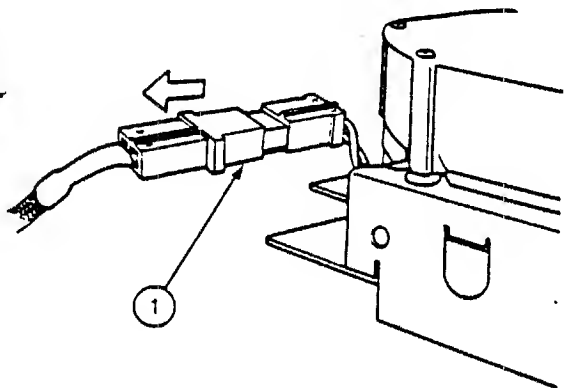

FIGURE 16
2. If there is a metal bar across the front of the analog PCB as shown in Figure 16, #1, or over the top of the analog PCB, remove the screws that hold the bar in place and set the bar aside. NOTE: This bar does not exist on later models.